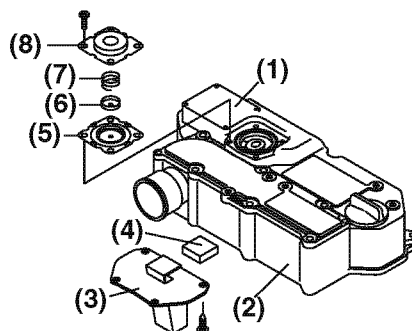

Figure 4-44
Inspect the diaphragm (Figure 4-44, (5)) on the rocker arm cover (Figure 4-44, (1)).